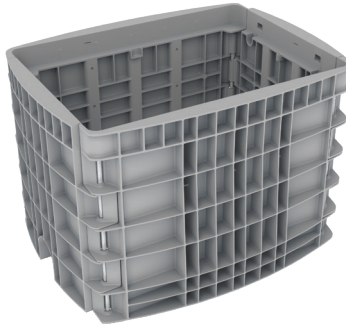

Figure 2
- b. With hands and fingers clear of hinges, unfold vault until square (**Figure 2**).